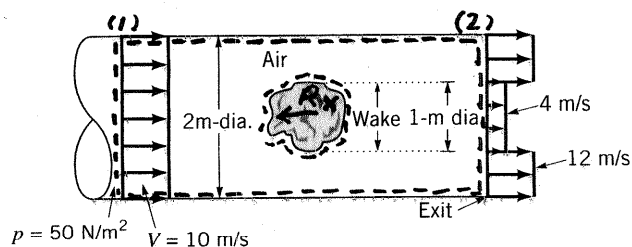

FIGURE P5.89
5.89 Air flows past an object in a pipe of 2-m diameter and exits as a free jet as shown in Fig. P5.89. The velocity and pressure upstream are uniform at 10 m/s and 50 N/m², respectively. At the pipe exit the velocity is nonuniform as indicated. The shear stress along the pipe wall is negligible. (a) Determine the head loss associated with a particle as it flows from the uniform velocity upstream of the object to a location in the wake at the exit plane of the pipe. (b) Determine the force that the air puts on the object.